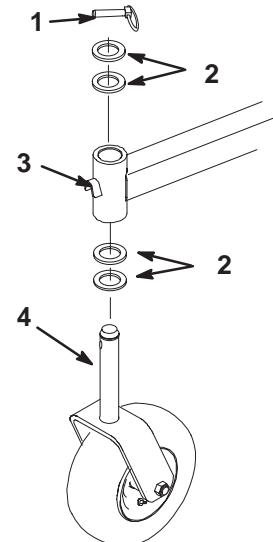

Figure 64
2. Remove the locking pin and spacer(s) from the top of the castor wheel fork (Fig. 64).
6. Inspect the castor wheel fork for wear and replace if necessary (Fig. 64).
7. Slide the castor wheel fork through the bushings in the mounting tube. Replace the spacer(s) onto the fork and secure with the retaining ring (Fig. 64).